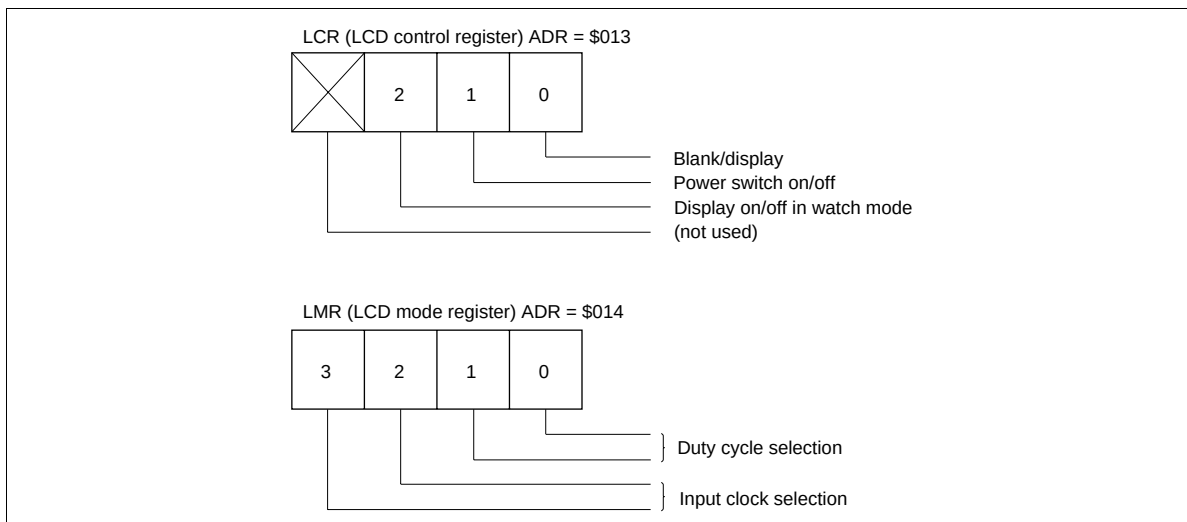

**Figure 36 LCD Control Register**
**LCD Control Register (LCR: \$013):** The LCD control register is a 3-bit write-only register which controls the blanking of the LCD, activation of the power switch, and display in watch mode/subactive mode (table 27, figure 36).
**LCD Duty-Cycle/Clock Control Register (LMR: \$014):** The LCD duty-cycle/clock control register is a write-only register which specifies four display duty cycles and the reference clock for the LCD (table 28, figure 36).